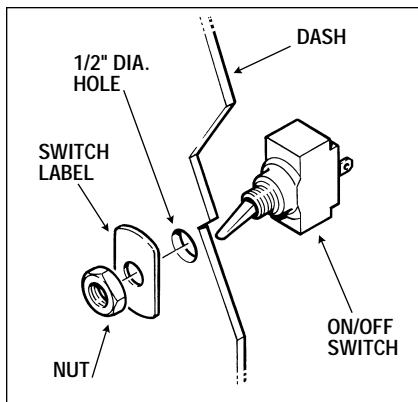

Figure 3-20 ON/OFF Switch Assembly
2. Drill a 1/2" diameter hole through the dash for the switch. Make sure you have clearance behind the dash for the switch wires and connections. Install the switch as per the diagram. (See Figure 3-20)